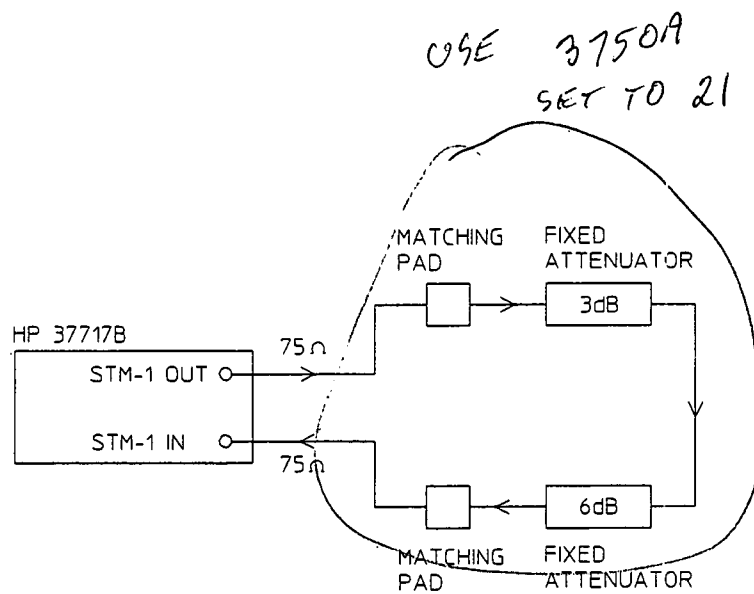

Figure 3-42. STM-1 Receiver Monitor Input
3. Connect up the equipment as shown in Figure 3-42.